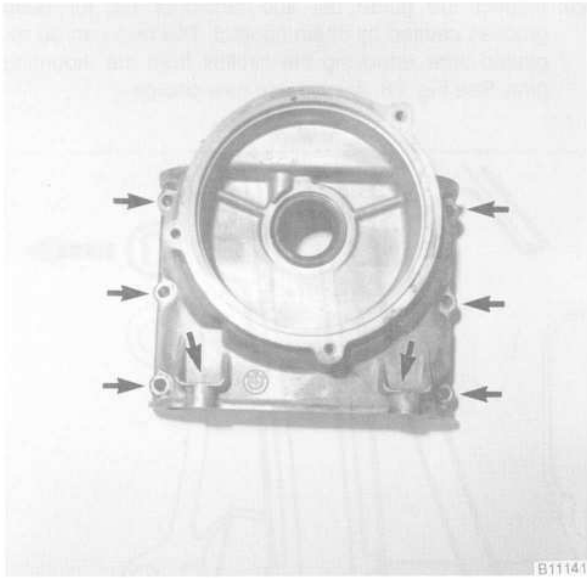

Fig. 24. Upper timing chain cover mounting bolt holes (arrows).
8. Remove the bolts from the upper timing chain cover. See Fig. 24. Carefully separate the cover from the cylinder head.